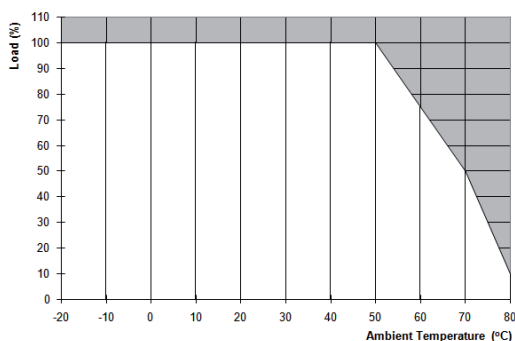

Figure 6
5.4. Thermal behavior (Fig. 6)
In the case of ambient temperatures above +50°C [122°F], the output capacity has to be reduced as shown in Figure 6. If the output capacity is not reduced when T_{amb} > 50°C [122°F] device will switch into thermal protection mode. The device will cycle output on and off to maintain internal power dissipation and will recover when ambient temperature is lowered or load is reduced as far as necessary to keep device in a normal operating mode.